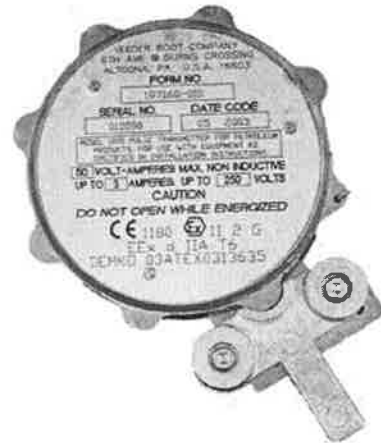

Figure 1. ATEX (CE) 1871 Pulse Transmitter.
A. GENERAL. These instructions are for installation of the ATEX (CE) 1871 Pulse Transmitter. Figure 1, designed and manufactured by Veeder-Root Company, 6th Avenue at Burns Crossing, P.O.Box 1673, Altoona, PA 16603. USA. (814) 695-4476.